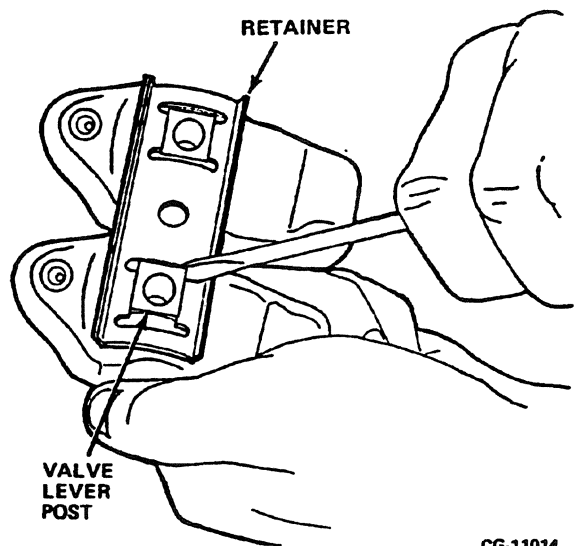

Figure 3.12. Post and Retainer Align
e. After both valve levers and valve lever posts are assembled, center the posts in the retainer using a blade screwdriver, as shown in Figure 3.12.